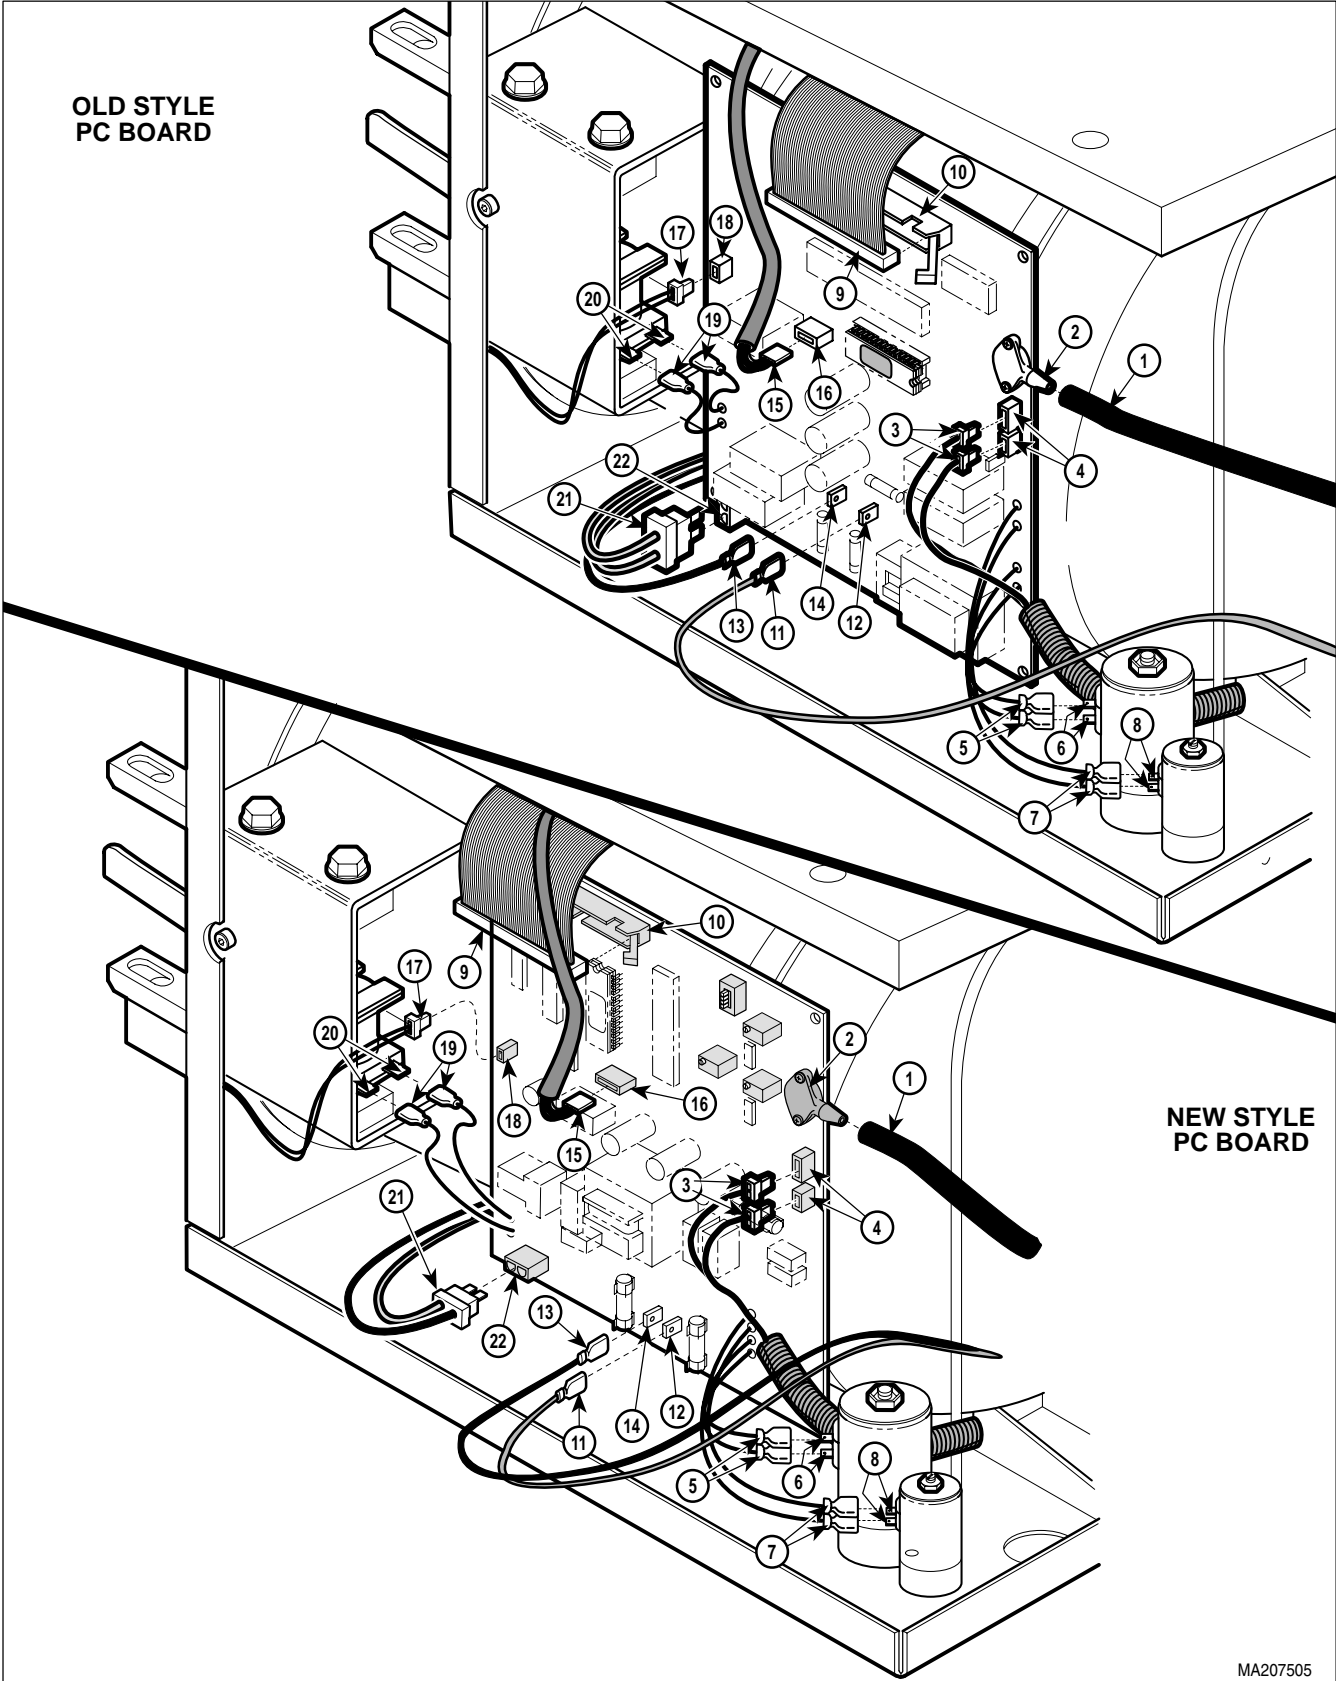

Figure 4-14. Control PC Board Connections
- (1) Remove right hand side panel (Refer to para 4.3).
- (2) Disconnect pressure tube (1, Figure 4-14) from pressure sensor (2).
- (3) Install control PC board (3) and control PC board bracket (4) as an assembly on base (5) and secure using two screws (2) and lock-nuts (1).
- (4) Connect heater element wire (21, Figure 4-14) to connector (22).
- (5) Connect two wires (19) on pulse solenoid terminals (20).
- (6) Connect wire harness (17) to connector (18).
- (7) Connect printer cable (15) to connector (16).
- (8) Connect hot wire (13) to terminal (14).
- (9) Connect neutral wire (11) to terminal (12).
- (10) Connect ribbon connector (9) to connector (10).
- (11) Connect two wires (7) to terminals (8).
- (12) Connect two wires (5) to terminals (6).